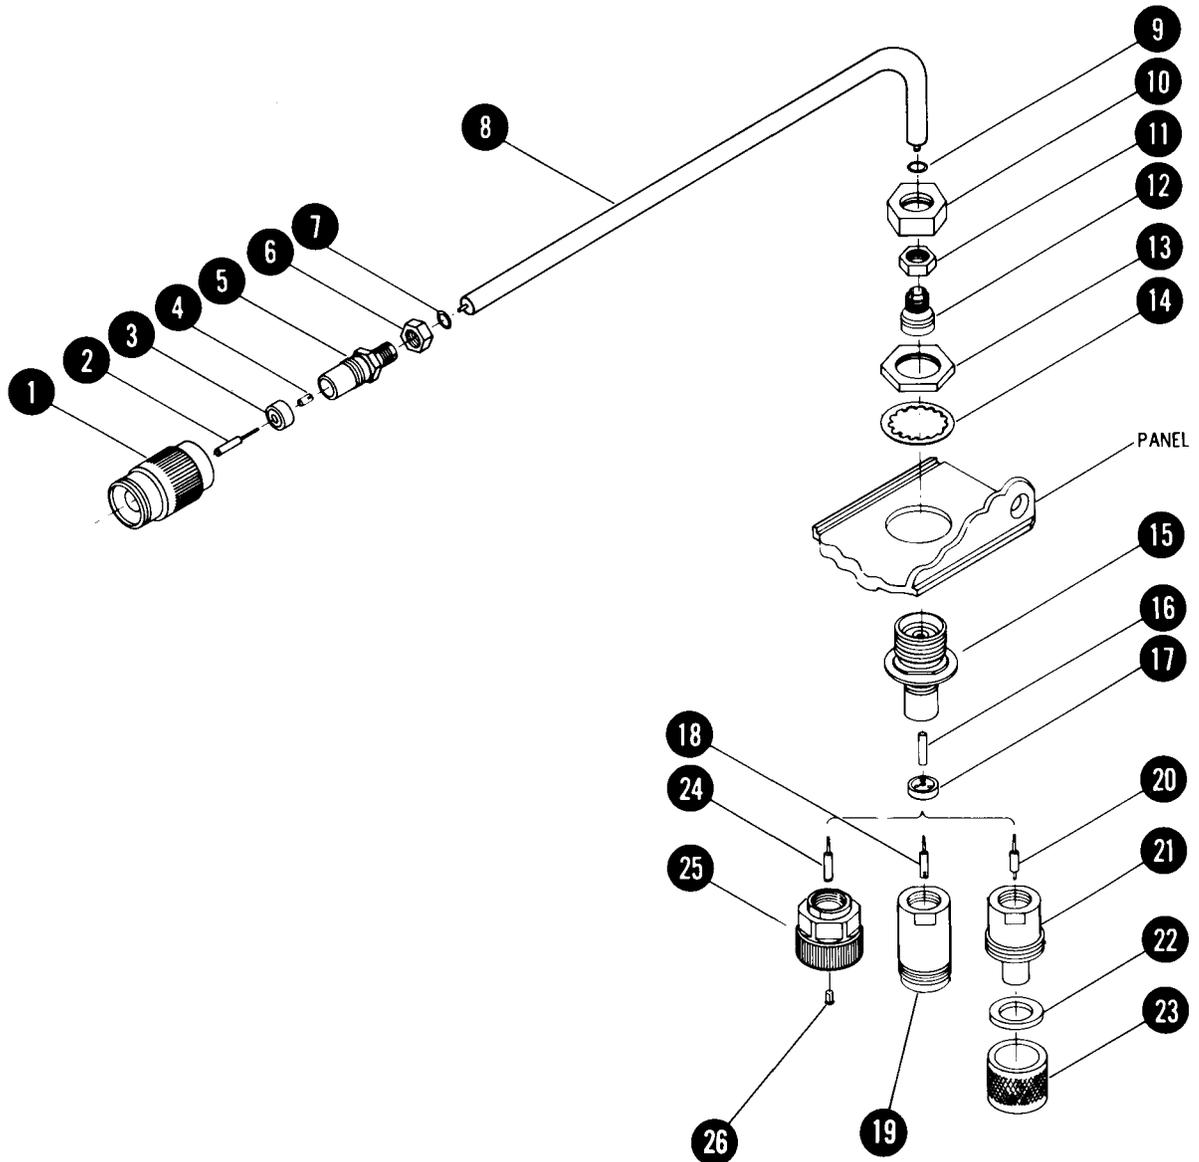

Figure 11 Agilent 11691D Coaxial Line Removal/Replacement
1. With a 9/16 inch (1/2 inch for APC-7) open-end wrench, unscrew the outer connector body. Refer to Figure 11 on page 19.
1. If the parts for the center conductor assembly (refer to Figure 11) have not been cemented together, place a tiny amount of conducting silver paint on the threads of the contact and screw the assembly together.
2. With a pair of plastic-jawed pliers, unscrew the directional-coupler sub-assembly knurled connector from the connector body (refer to item 1 in Figure 11) on the coaxial cable assembly.
In the following procedure, refer to Figure 11, “Agilent 11691D Coaxial Line Removal/Replacement,” on page 19 to identify the numbered items.
In the following procedure, refer to Figure 11 on page 19 to identify the numbered items.